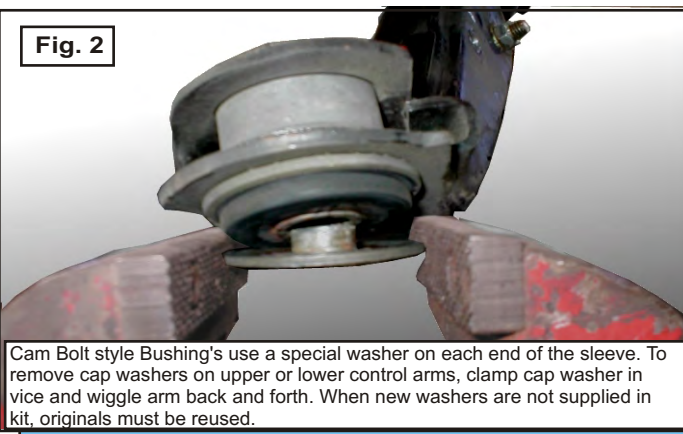

Fig. 2
**See Fig.2 for removal of factory cap washers.**